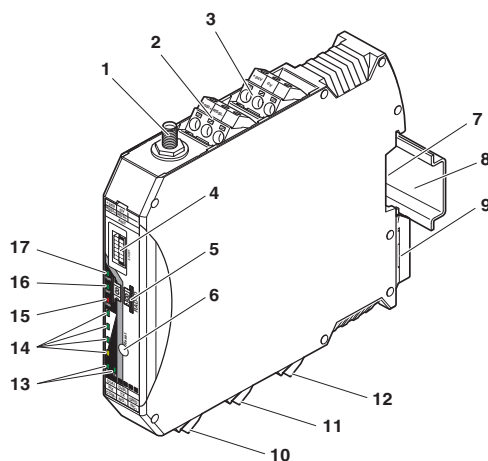

Figure 4-1 SATEL-LP24 structure
- Connect the single wires of the data cable to the COMBICON plug-in screw terminal block (Figure 4-1, item 10).